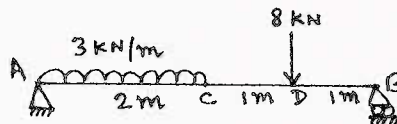

Fig.Q2(a)
- 2 a. Find the slope at A, and deflection at C, in the beam shown in Fig.Q2(a), by moment area method. Take EI as constant.